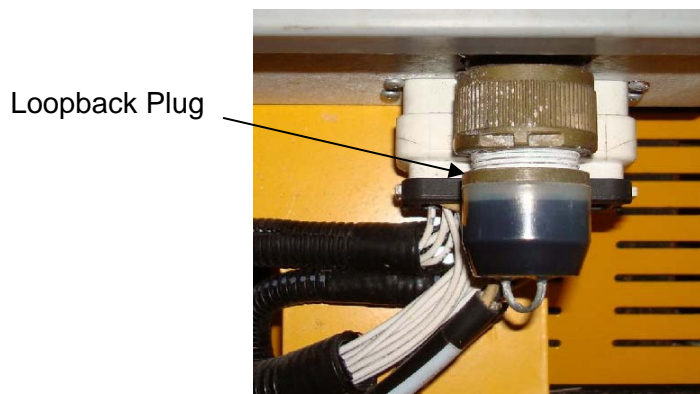

Figure 7-3. Loopback plug
- Disconnect the electric **LOOPBACK PLUG** from the receptacle on the bottom right of the ground (lower) control box. Refer to Figure 7-3